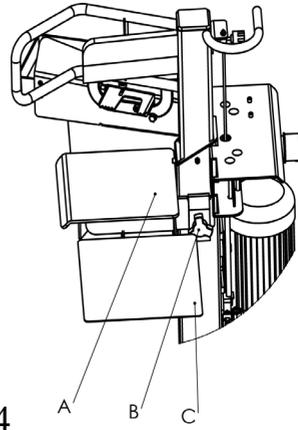

Fig.4
Mounting the left/right storage Fig .4
Mounting the working table, Fig. 4
Depending on the length of the timber to be cleaved, the Table(A) can be mounted at 1 height: 55 cm. Insert the working table according to the position of Fig.4, then secure the table with the two M8 knobs on both sides.